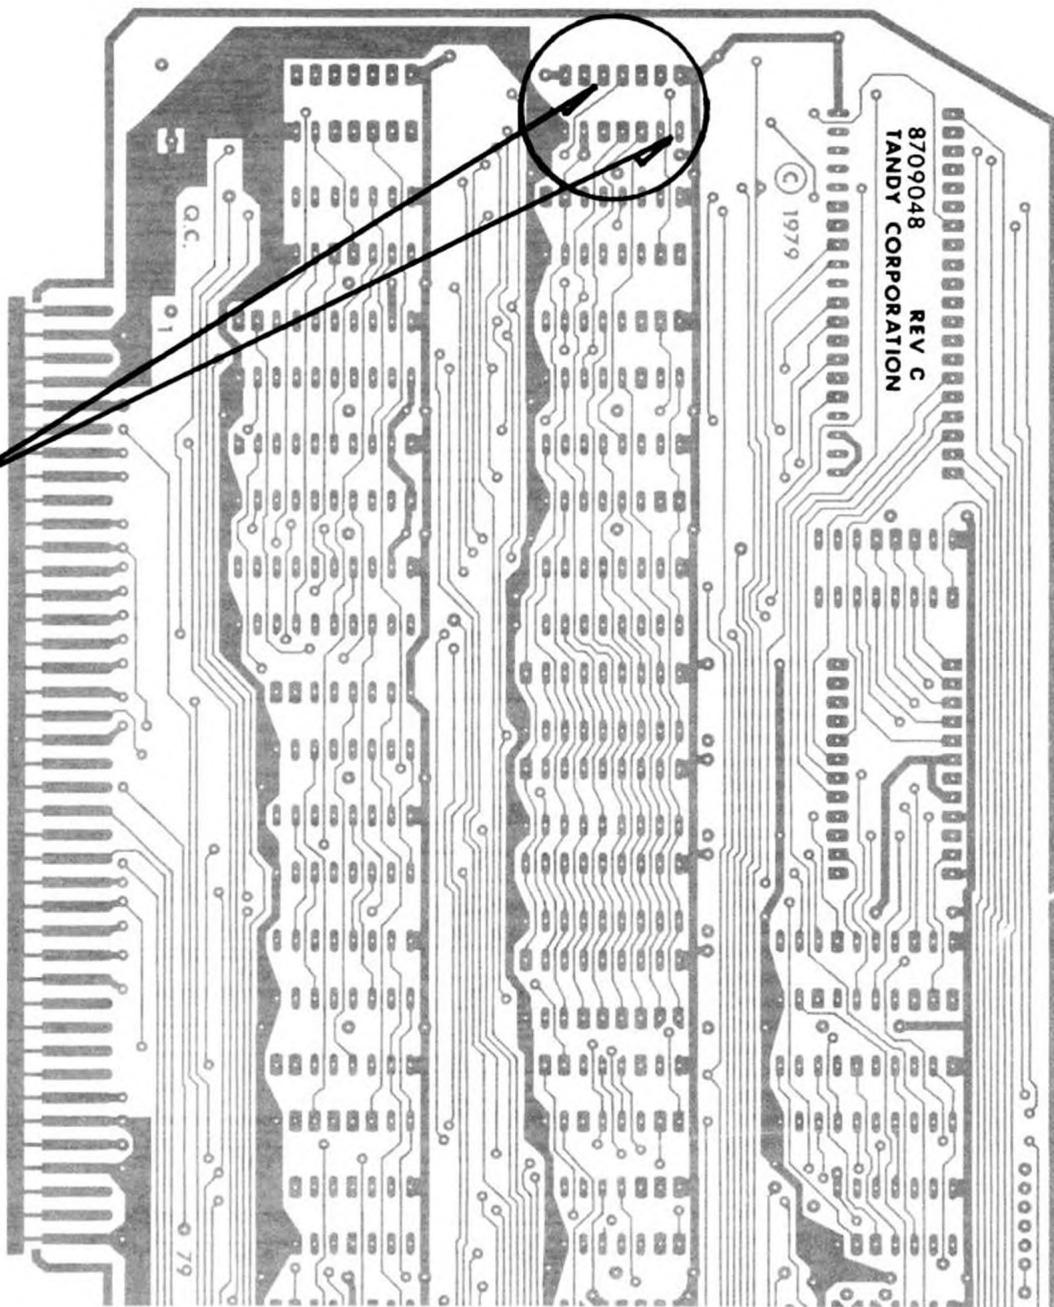

Figure 1
**PROCEDURE:** Whenever a Rev C VDG board is replaced with a Rev A or B VDG board jumper pin 1 to pin 10 of U27 on the Rev A or B board to insure no addressing conflict of the VDG board (Refer to Figure 1).